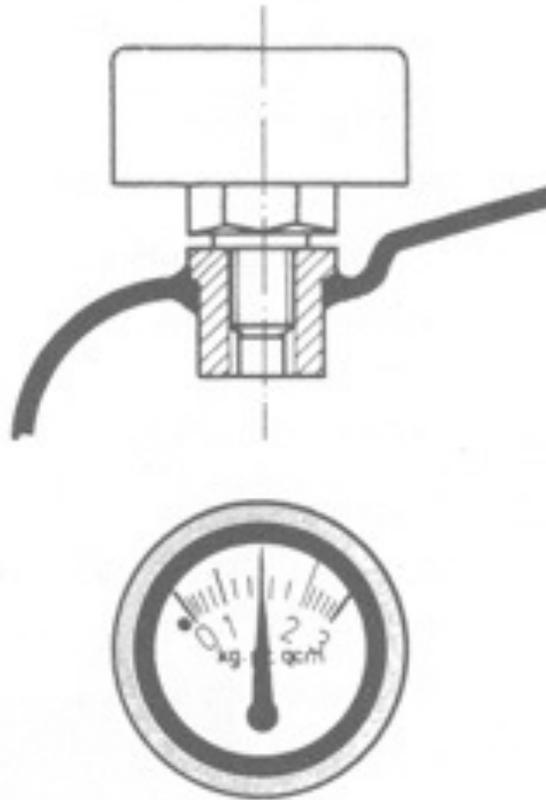

Fig 2
15. The **pressure gauge** (Fig. 2) indicates the pressure in the tank. The pressure should be maintained at 1.5 bar (kg/cm²) to ensure satisfactory operation of the device.